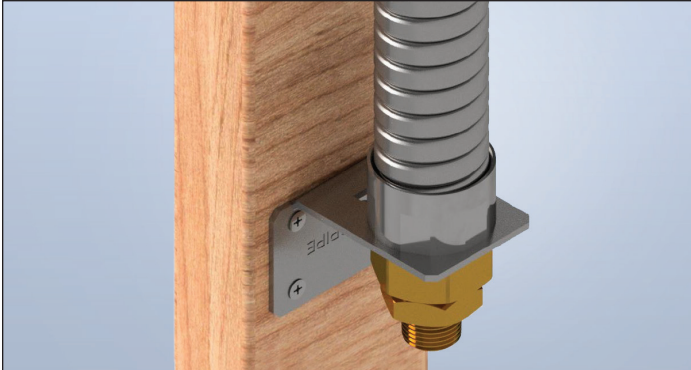

Figure: 1-9
9. Slide down and thread Floppy Conduit into Floppy Conduit Adapter (Figure 1-9). **No additional fastening or adhesives required!**